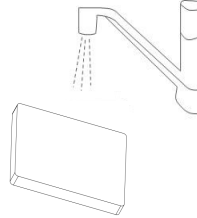

Fig.19
- 6) As in fig.19, get the HEPA and wash it.